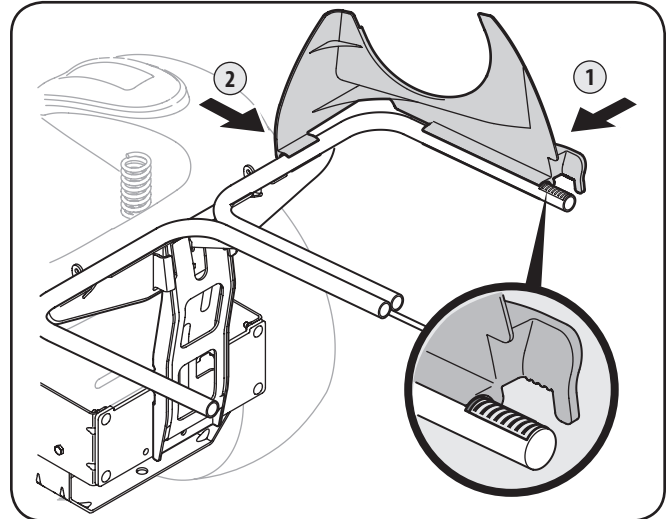

Figure 4-12
1. Snap the plastic upper chute support in place by first clipping the side portion onto the bagger support rail with the edge of the snap feature aligned with the red line, as seen in Fig. 4-12.
2. Snap the front side of the chute support to the rail, as shown in the inset of Fig. 4-12.